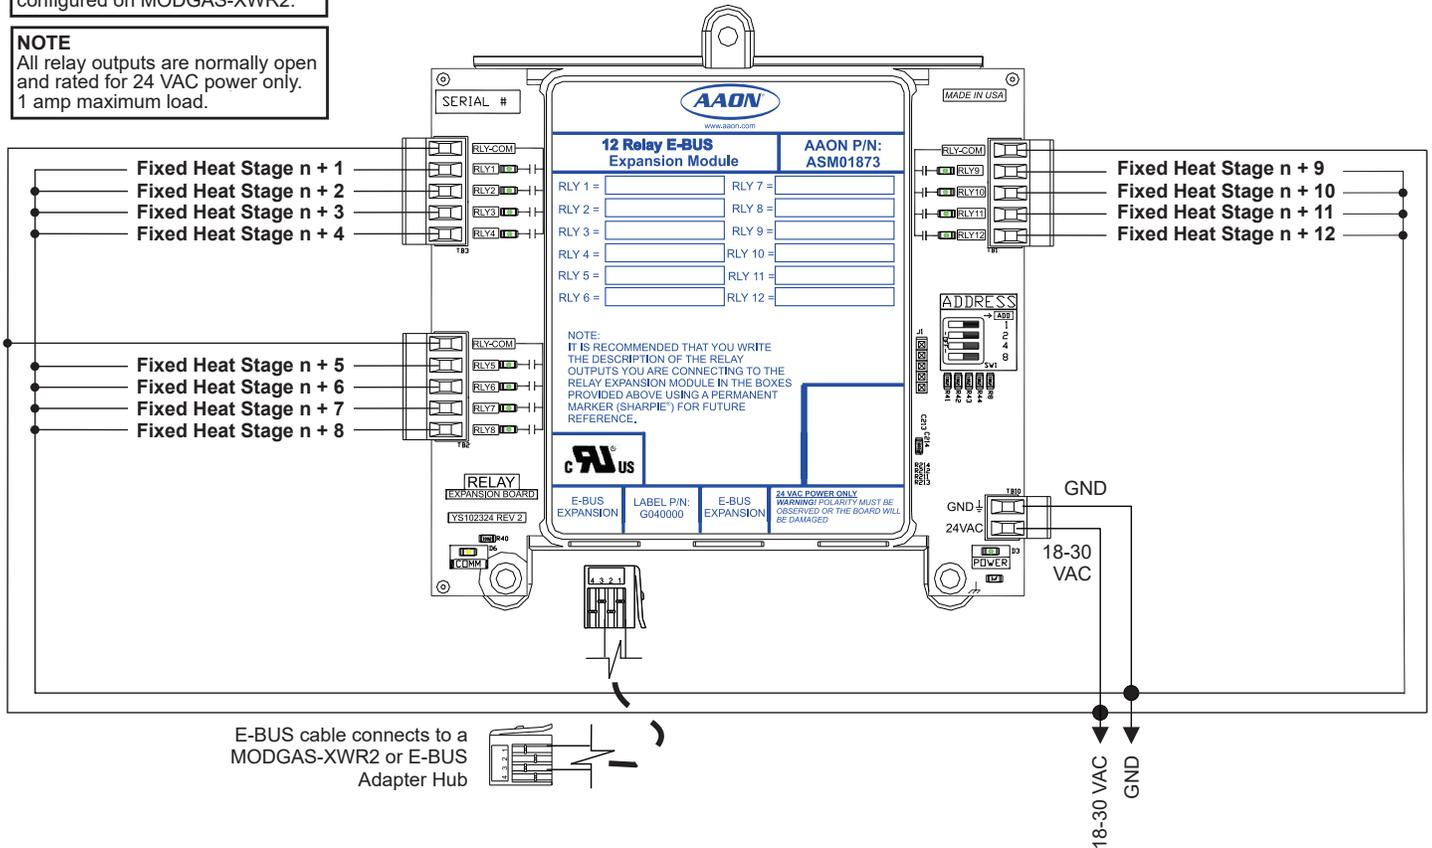

Figure 8: Stand-Along Wiring - 12 Relay E-BUS Expansion Module
**NOTE:** Up to three additional fixed heat stages can be configured by using Heat 2 (RLY4), Heat 3 (RLY5) and Heat 4 (RLY6). Up to 12 additional fixed stages can be added by using the 12 Relay E-BUS Expansion Module. (Figure 8, page 15).
**NOTE:** Up to two additional fixed heat stages can be configured by using Heat 3 (RLY5) and Heat 4 (RLY6). Up to 12 additional fixed stages can be added by using the 12 Relay E-BUS Expansion Module. (Figure 8, page 15).
**NOTE:** Up to two additional fixed heat stages can be configured by using Heat 3 (RLY5) and Heat 4 (RLY6). Up to 12 additional fixed stages can be added by using the 12 Relay E-BUS Expansion Module. (**Figure 8, page 15**).
**NOTE:** Up to three additional fixed heat stages can be configured by using Heat 2 (RLY4), Heat 3 (RLY5) and Heat 4 (RLY6). Up to 12 additional fixed stages can be added by using the 12 Relay E-BUS Expansion Module. (**Figure 8, page 15**).